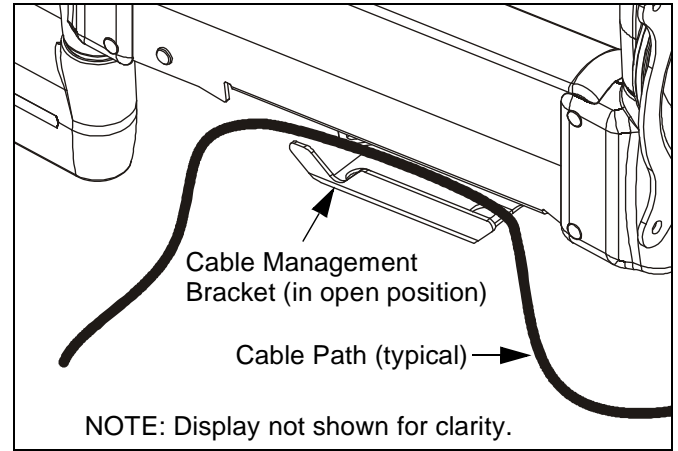

Figure 8
3. Carefully insert cables into bracket (See Figure 8).